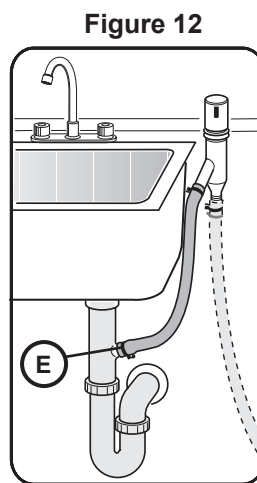

Figure 12
- 3 To the under sink dishwasher drain connection through an air gap, as shown in Figure 12.